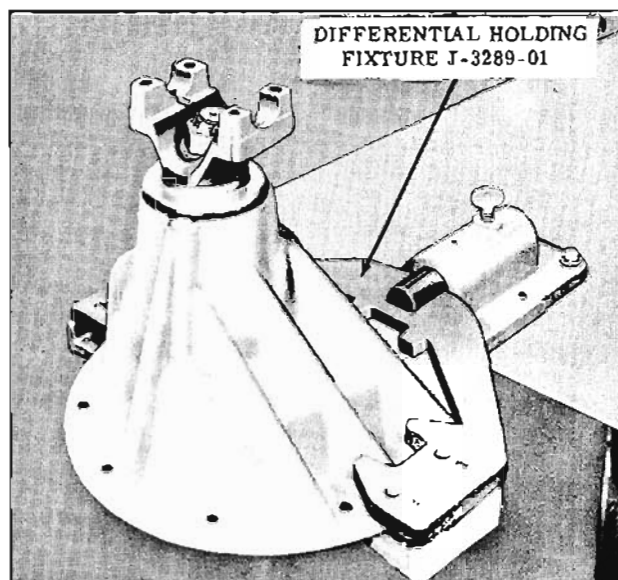

Fig. 10-13 Holding Fixture
1. Mount differential in Holding Fixture J-3289-01. (Fig. 10-13)